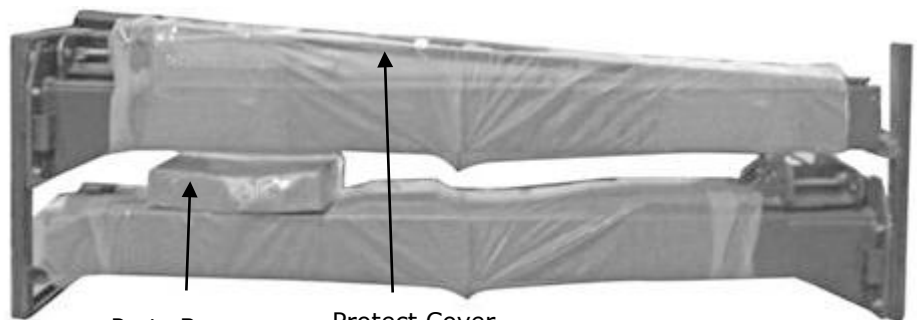

**Fig. 6**
1. Packaged lift and hydraulic power unit (See Fig. 6)